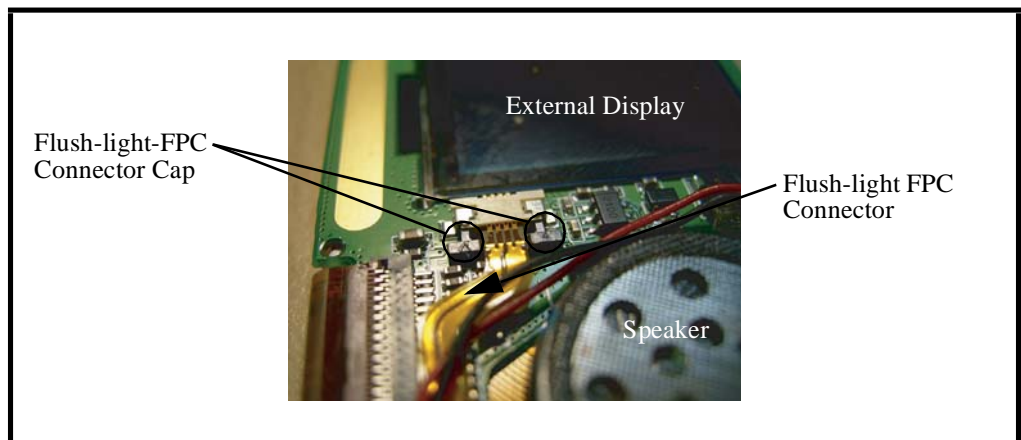

Figure 16. Removing the Flush-light FPC Connector
3. Push the flush-light-FPC connector cap a little bit toward the speaker and disconnect the flush-light FPC connector away from the upper PCB as shown in Figure 16.